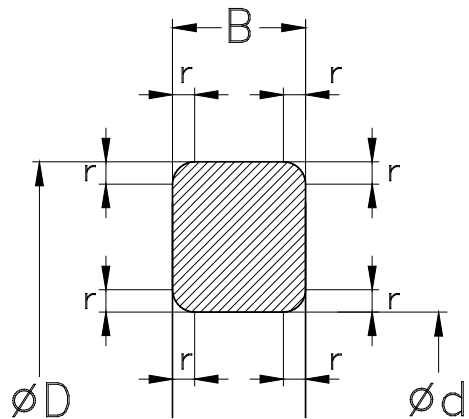

Fig.3.2
Defined in these standards are bearing base design, **bore diameter (d)**, **outer diameter (D)**, **width (B)**, or, in the case of thrust bearings, **height (H, T)** and minimum values for chamfer **dimensions (r)** (fig.3.2).